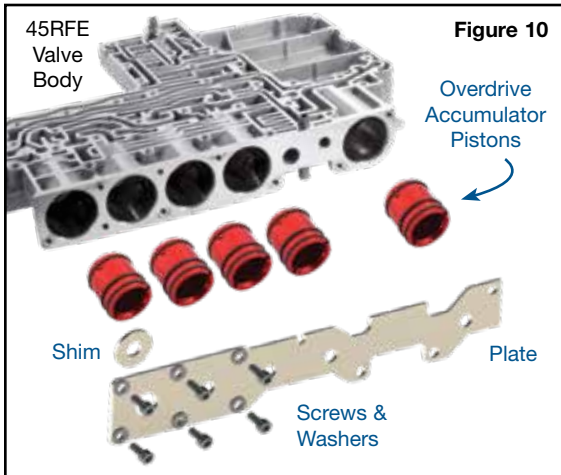

Figure 10
- a. Remove screws and accumulator piston cover plate (**Figure 10**). Discard OE cover plate.
- d. Torque six Sonnax screws to 70 in-lb. Torque four OE screws to 40 in-lb (**Figure 10**).